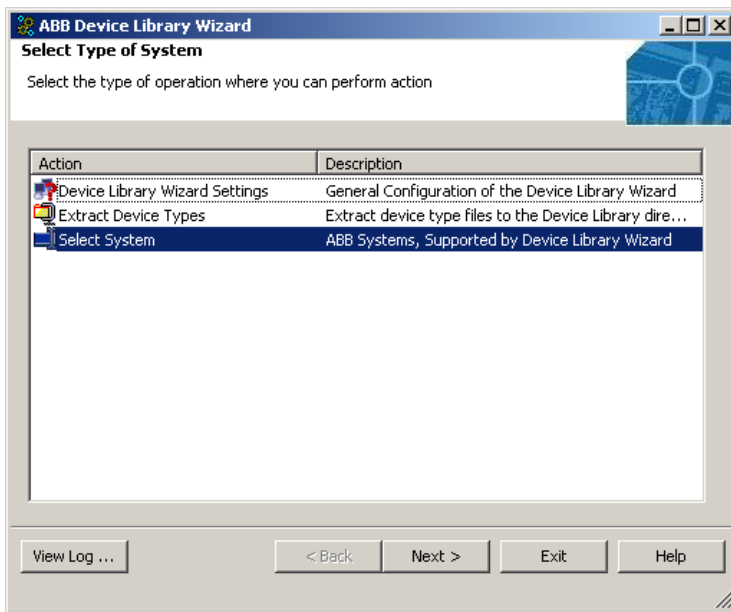

Figure 65. Select System
1. In the resulting screen, similar to the one shown in Figure 65, select “Select System” and click on **Next** button.